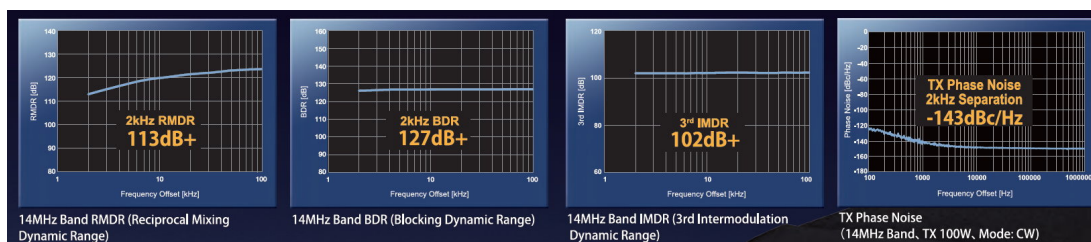

Figure 3: Yaesu specifications of the FT-710
**Figure 3** shows the Yaesu specifications of the FT-710, such as RMDR, BDR, IMD3 and TX-Phase Noise. The most important RF data of the receiver and transmitter are tested below. A detailed report on the function and handling of the FT-710 will be published in FUNKAMATEUR magazine 01/2023.